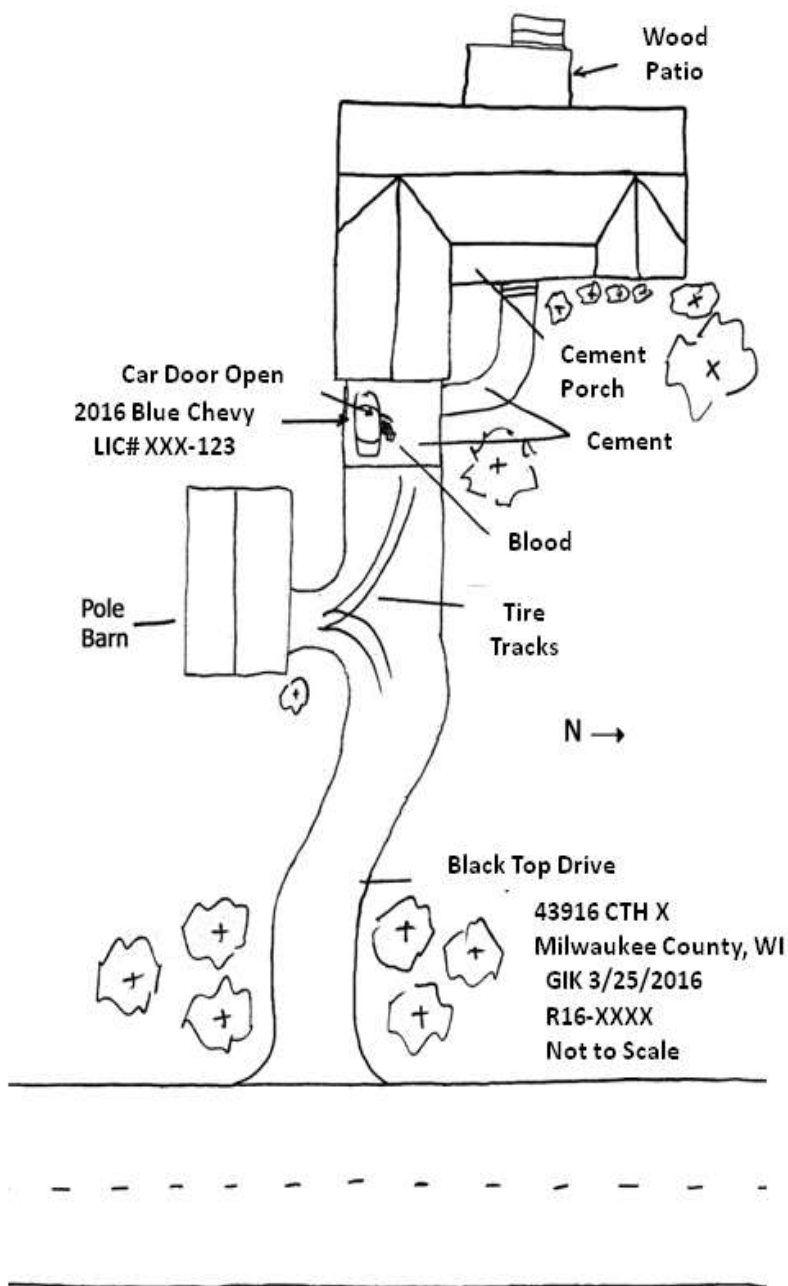

Fig. 4-1 Overview sketch of an exterior crime scene.
- Overview sketch – consists of a bird's-eye-view or floor plan sketch of the scene. This is the most common type of sketch and consists of items on the horizontal plane (see Figure 4-1).